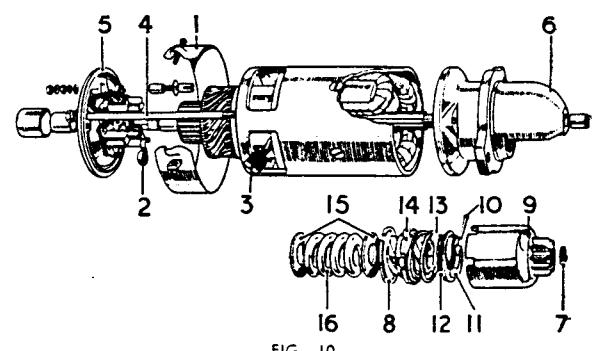

FIG. 10
If the starter motor pinion will not mesh correctly or becomes jammed in mesh with the flywheel, it may be that the starter drive requires cleaning. The control nut (14), Fig. 10, should move freely on the screwed sleeve; if there is any dirt or foreign matter on the sleeve, it must be washed with paraffin. Do not lubricate.
1. Take off the cover band (1) Fig. 10, at the commutator end, hold back the brush springs (2) and remove the brushes (3) from their holders.
1. Secure the armature by gripping the shaft extension and removing the locating ring (7), Fig. 10, from the end of the shaft.
2. Remove the retaining ring (8) and withdraw the barrel-and-pinion assembly (9).
3. Take out the peg (10) securing the locating nut. Remove the locating nut (11), which has a LEFT HAND THREAD, friction washers (12) and retaining spring (13).
- 4a. Spring type drive only (Fig. 10)—Slide